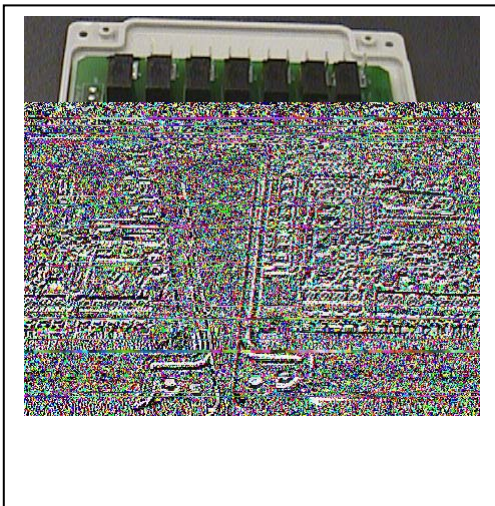

Fig 1 Main Board
The MAIN BOARD (Fig 1) is an electronic component located inside an electrical box of the unit. It controls all the functions of the compressors, fans, humidifier, etc. Only qualified personnel should access the board.
*NOTE: The Main Board (Fig 1) is factory installed and is located inside the unit. The procedure for field installation of the display and sensor is as indicated below.*